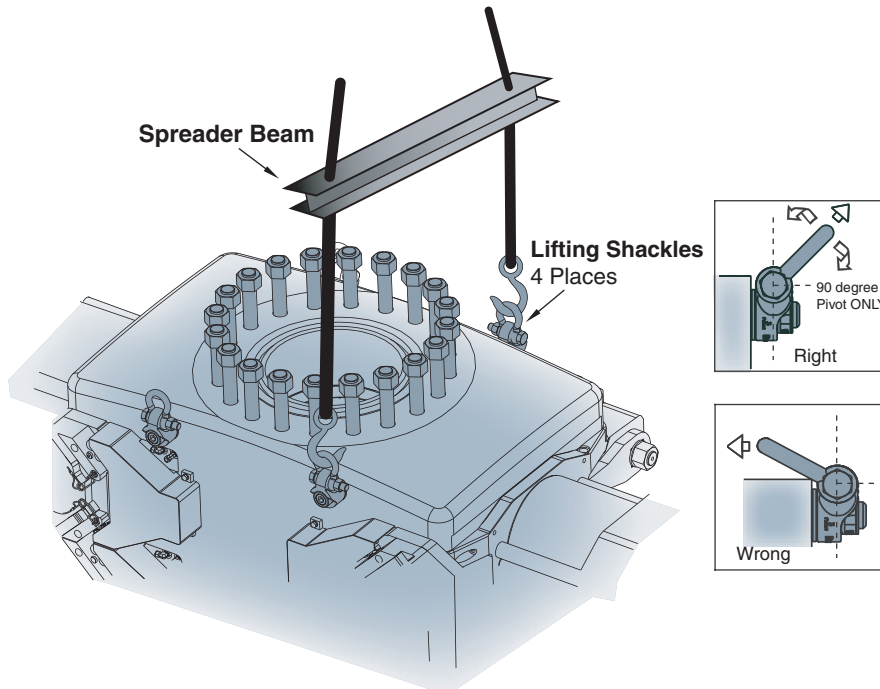

Figure 3-2. Lifting the NXT BOP
- The NXT preventer can be lifted by using four lifting shackles mounted on the top side of the BOP body (see Figure 3-2 on page 3-4).